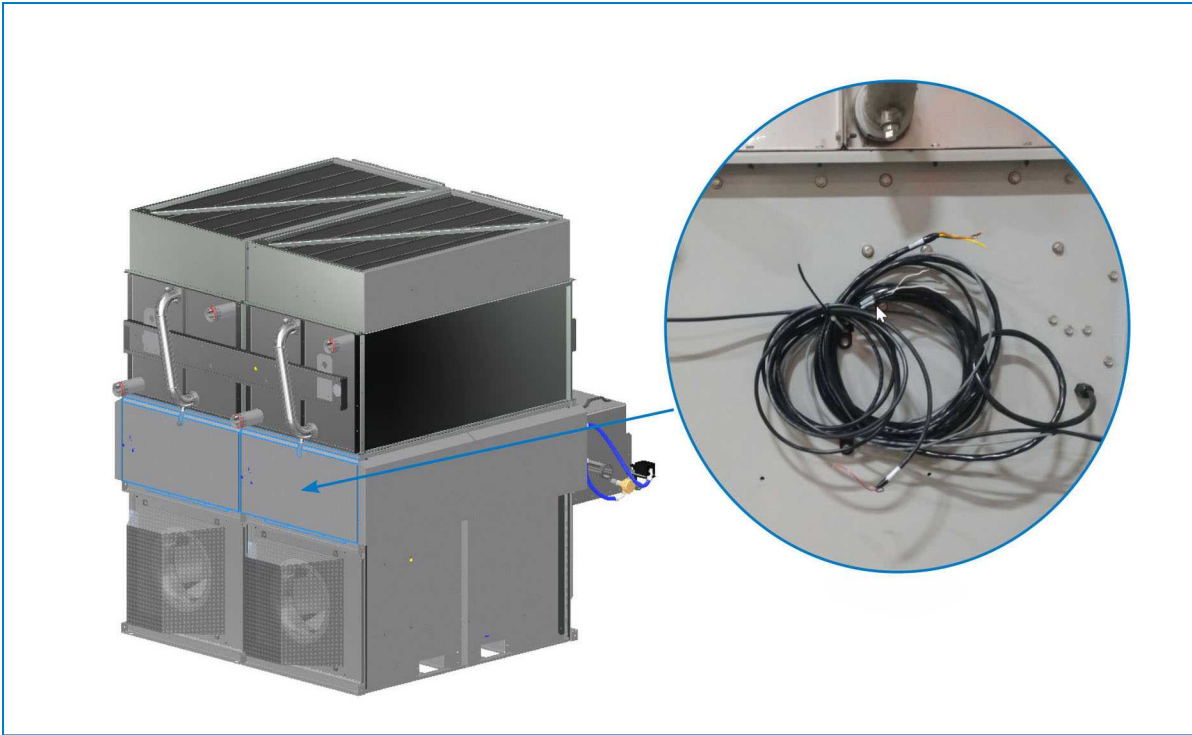
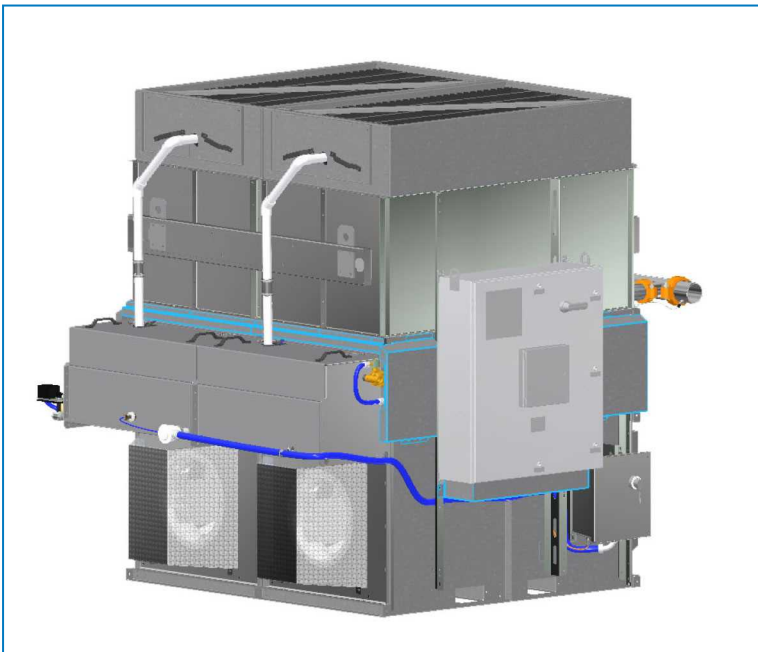
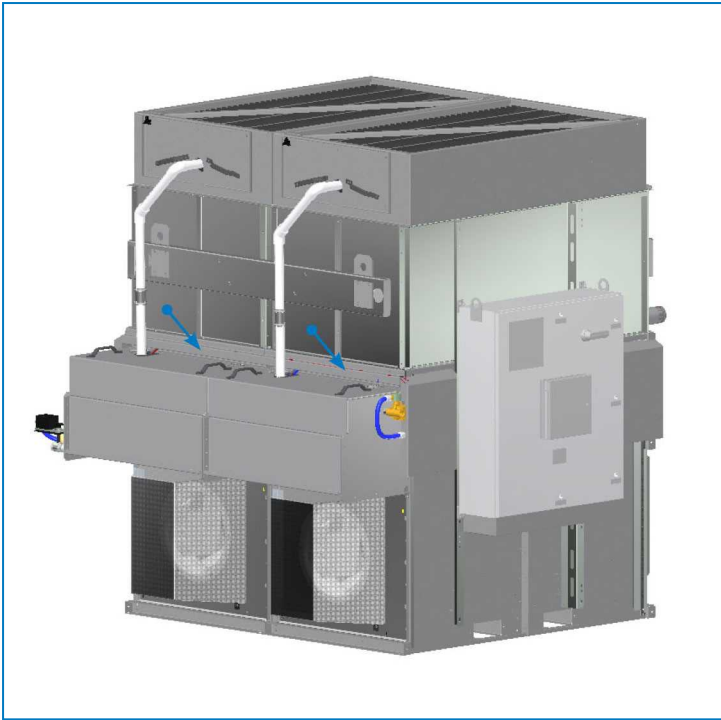

Fig. 11 Location of fan wiring
Fig. 14 Location of cover panels around the iPilot® Control System panel (optional basin heater shown)
Fig. 19 Install wire cover
1. Remove the back cover panel located on the opposite side of water basin (face D). Find the fan wire stored under cover panel for each module. See figure 11.
1. Remove the rest of cover panels around control panel and above spray water basin. Keep the hardware for reinstallation of panels. See figure 14.
10. Install the wire cover panel at the top of the spray water basin. See figure 19. Install the cover panel at the back and side. See figure 11 and 12. Finally install the cover panels around the iPilot® Control System panel, see figure 14.